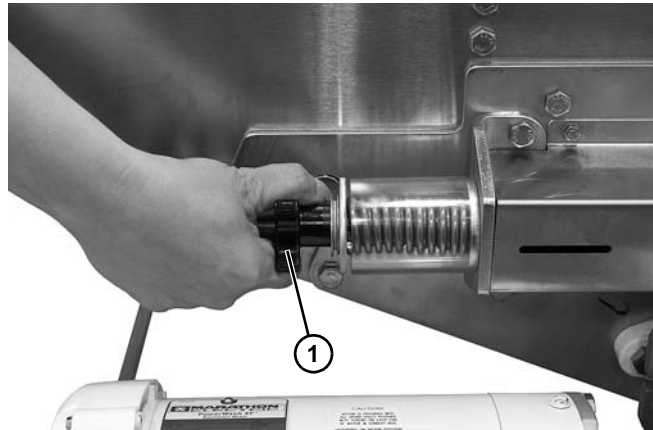

Figure 93
3. Rotate tension nut (Figure 93, item 1) on each side of the center drive counterclockwise to remove all tension on the belt.